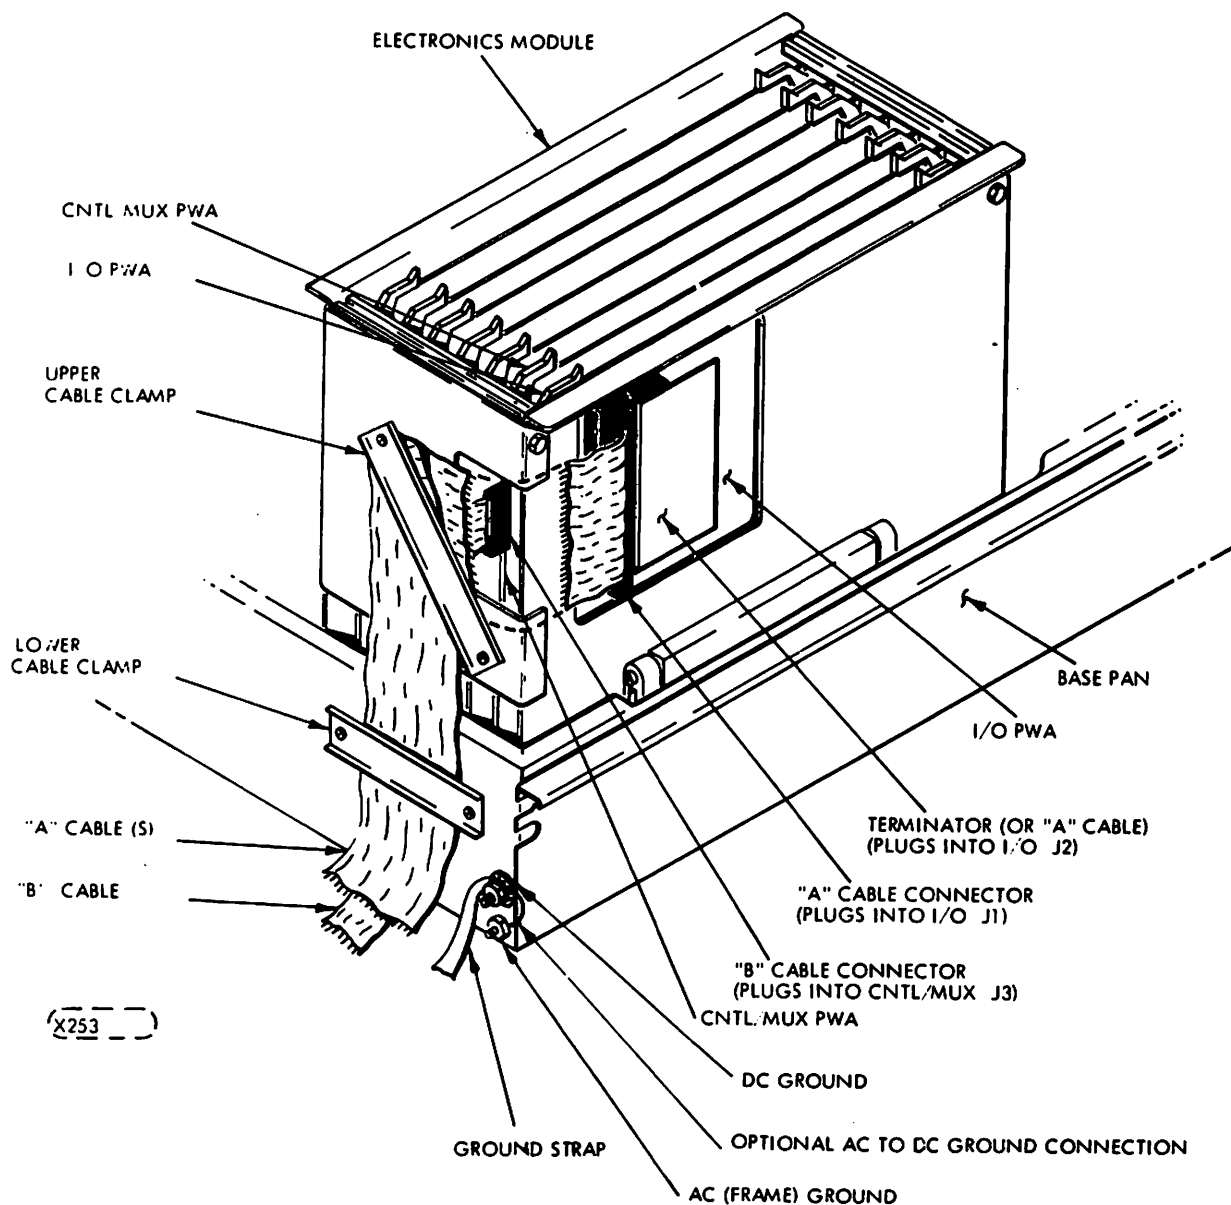

FIGURE 5-1 I/O CABLE INSTALLATION
- A. "A" Cable to I/O Board. (See Figure 5-1)